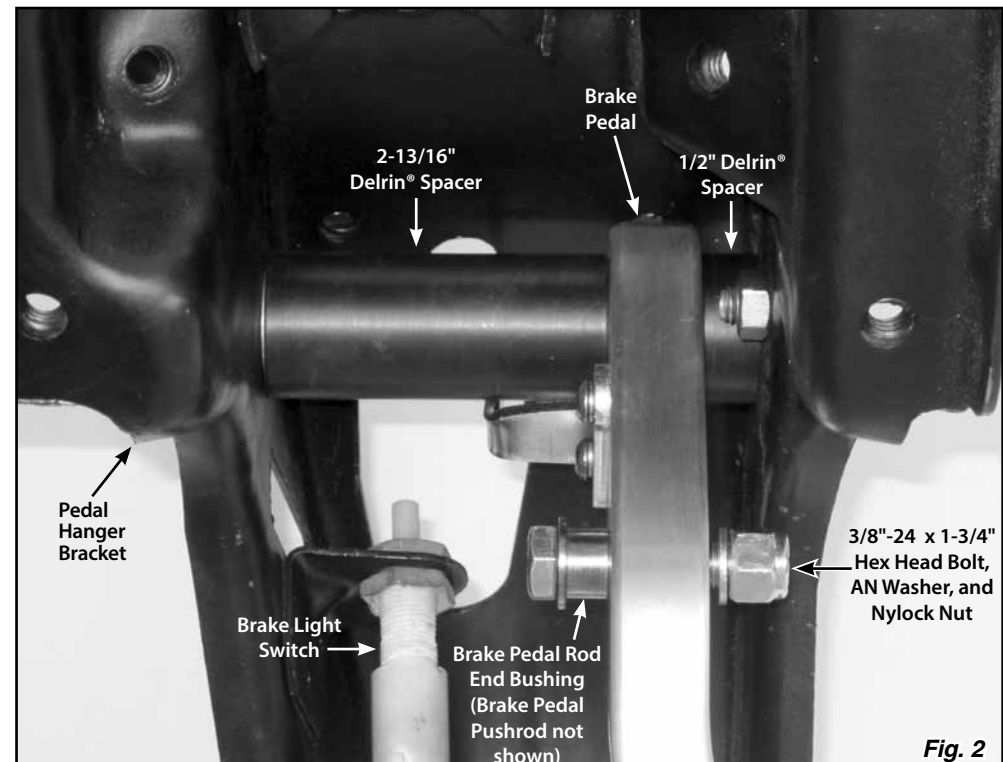

Fig. 2
Step 5: Install the brake pedal rod end bushing onto the 3/8"-24 x 1-3/4" hex head bolt, with the shoulder on the bushing against the bolt head. Insert the bolt and bushing through the brake pedal pushrod and the Brake Pedal, and install the 3/8" AN washer and nylock nut. **Fig. 2**